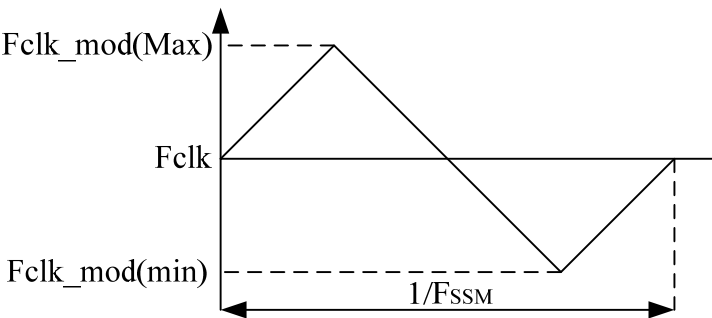

Fig.7-2 Spread spectrum clock generator
* SSCG (Spread spectrum clock generator) is defined as Fig. 7-2.